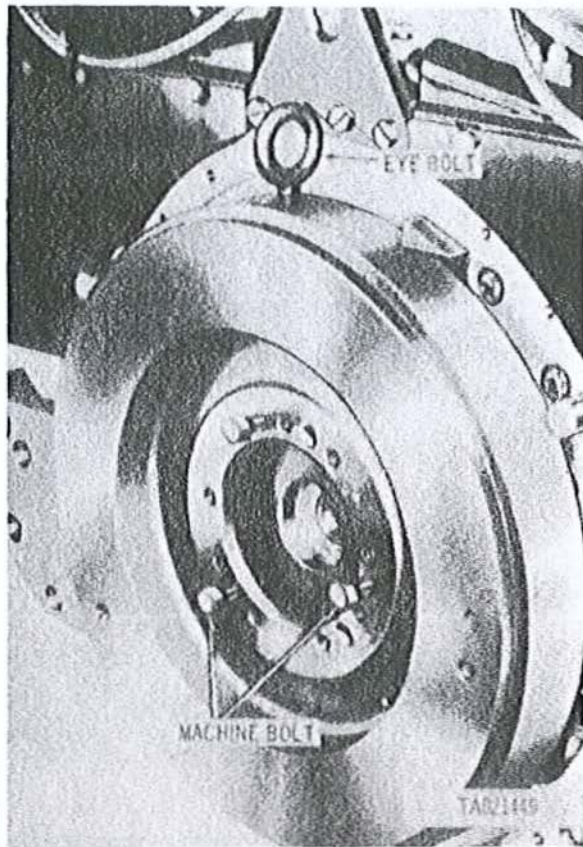

Figure 2-98. Removing flywheel, model AVDS-1790-2C and AVDS-1790-2D engines.
(3) Install three bolts (fig. 2-98) from transmission drive spur gear and flywheel, into puller holes.